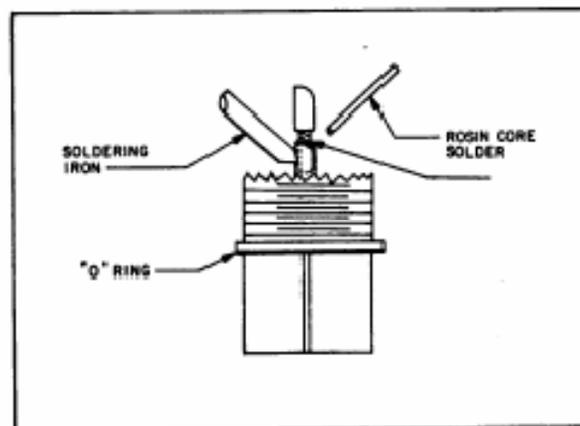

Figure 10-6. Joining Cables to Connectors
1. Strip the wire and insert it in the pot – when bottomed, approximately 1/32" of the wire should be exposed above the pot (see Figure 10-6). Cut wire to fit.